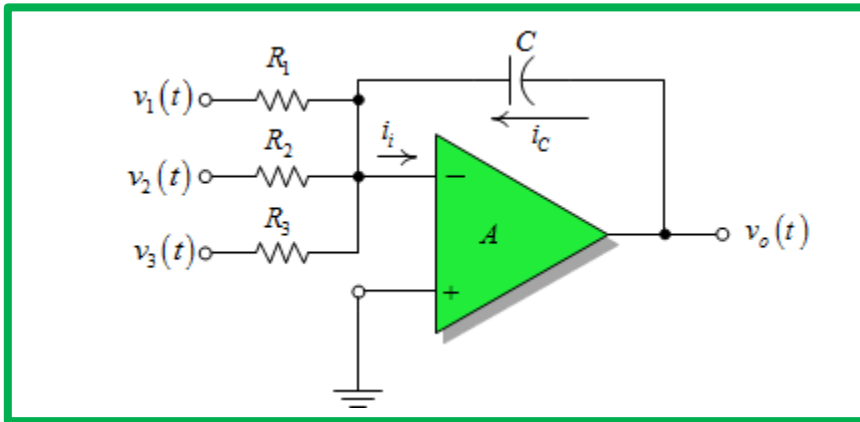

Fig. 12:
- It is **worth noting** that more than one input may be applied to an integrator, as shown in Fig. 12, with the resulting operation given by
- ❑ Consider the ckt in Fig. 12, let the values of the input resistors and feedback capacitor be, $R_1 = 200\text{k}\Omega$, $R_2 = 100\text{k}\Omega$, $R_3 = 1\text{M}\Omega$, and $C = 1\mu\text{F}$. Find the output voltage when all inputs are unit step voltages, i.e., 1V.